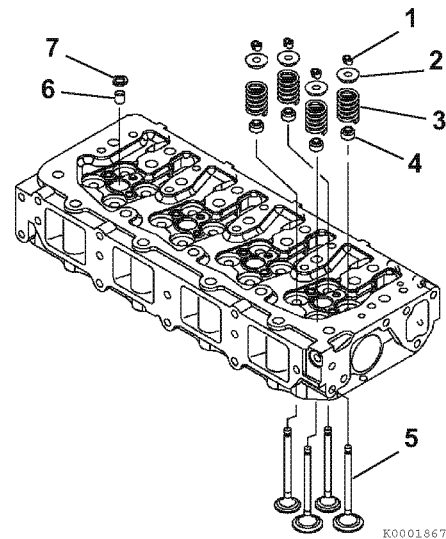

Figure 6-69
4. Place all the valves (5, **Figure 6-69**) in their proper location in the cylinder head.
5. Place the cylinder head on the workbench with the combustion side down. Install the valve spring (3, **Figure 6-69**) and spring retainer (2, **Figure 6-69**).
7. Insert the valve keepers (1, **Figure 6-69**) and slowly release the tension in the valve spring. Repeat the steps on all the remaining valves.